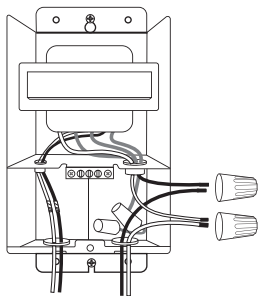

Figure 5
6. Use the included wiring caps to connect the output line of the transformer with your load input line, then place the connected line in the Low Voltage Wiring Compartment. (Figure 5)